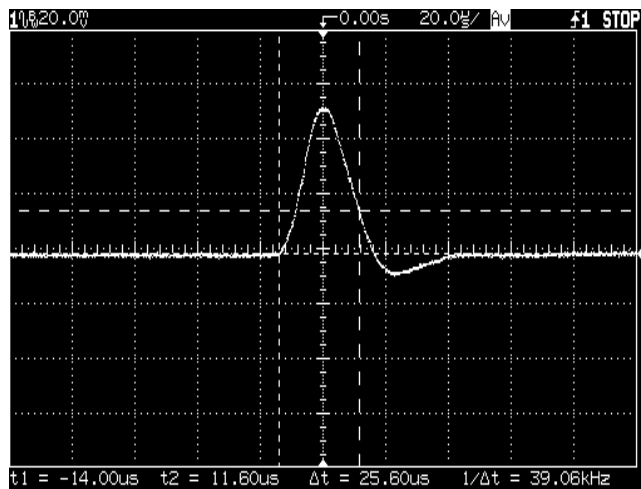

Figure 8-5 Transient response time
- 5 Adjust the oscilloscope to display transients as shown in Figure 8-5. Note that the pulse width ($t_2 - t_1$) of the transients at 15 mV from the base line is no more than 50 ms for the output.